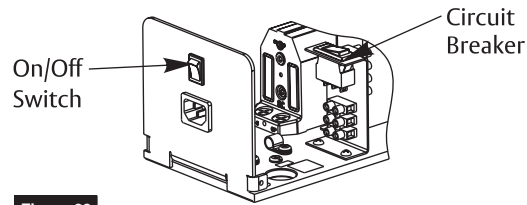

Figure 29
3. Turn on power at On/Off switch and flip breaker switch to "RESET". (Figure 29)